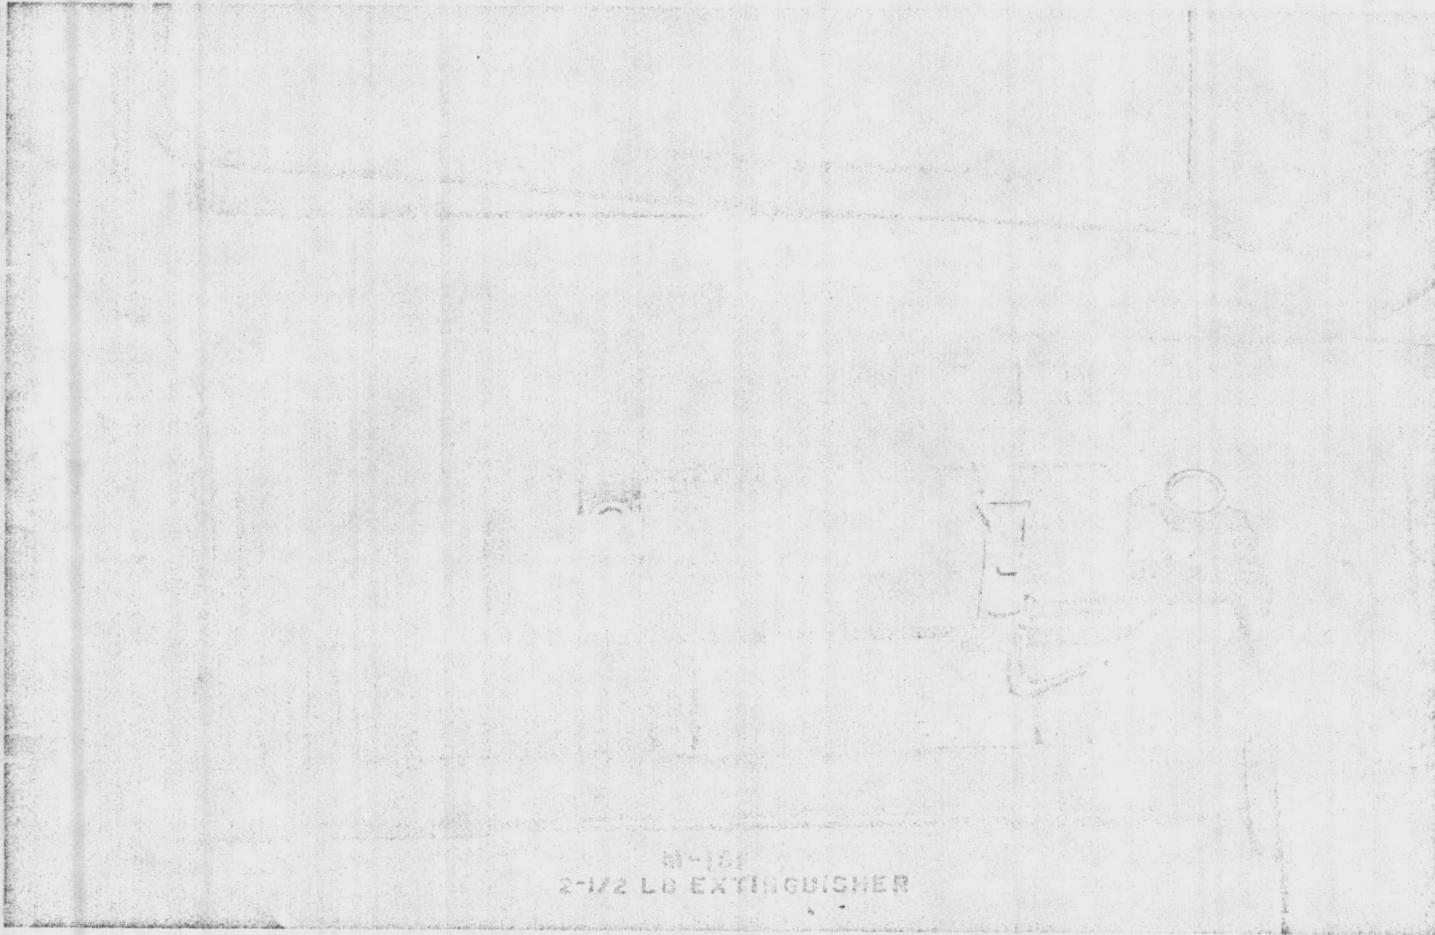

Figure 2. 2 1/2-Pound Extinguisher Located in the M151 Truck
(2) Position the mounting bracket for the appropriate type fire extinguisher, and secure it to the floor tunnel, using four Screws (NSN 5305-00-984-5211), four Flatwashers (NSN 5310-00-809-8546), and four Self-Locking Nuts (NSN 5310-00-689-3877).
d. The photographs of 2 1/2- and 5-pound fire extinguishers, with mount brackets (figures 2 through 7) show the physical locations in the tactical motor transport vehicles.